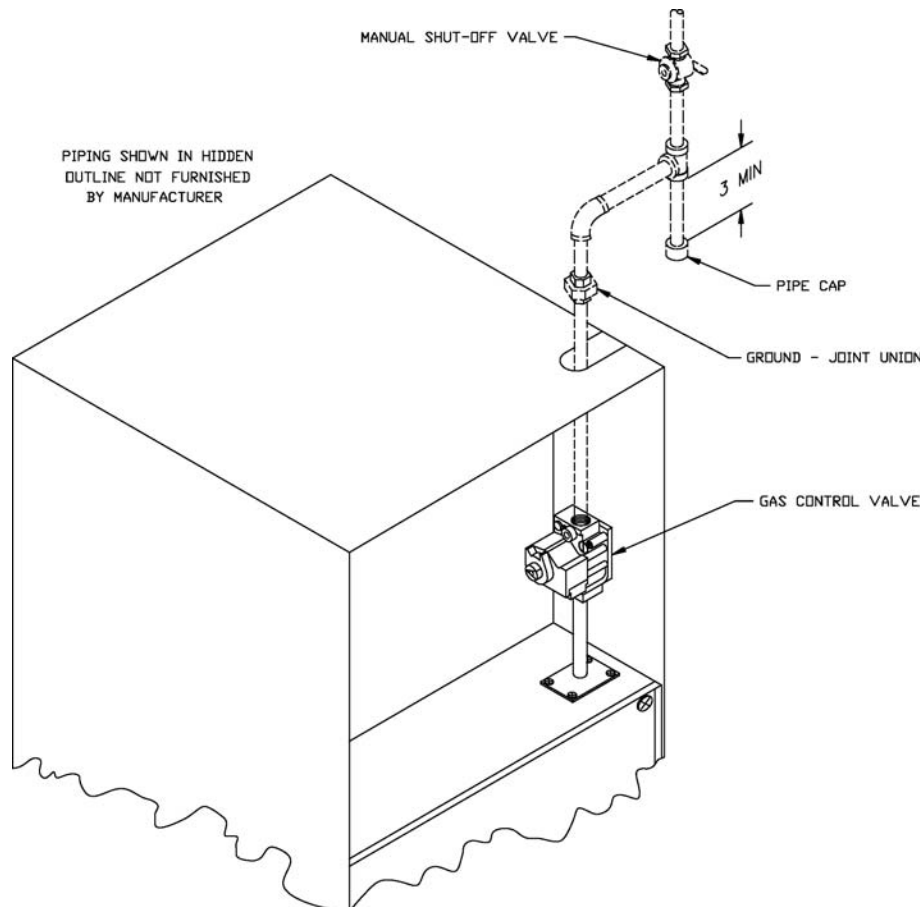

Figure 8: Recommended Gas Piping
3. Install sediment trap, ground-joint union and manual shut-off valve upstream of boiler gas control valve and outside of jacket. See Figure 8.